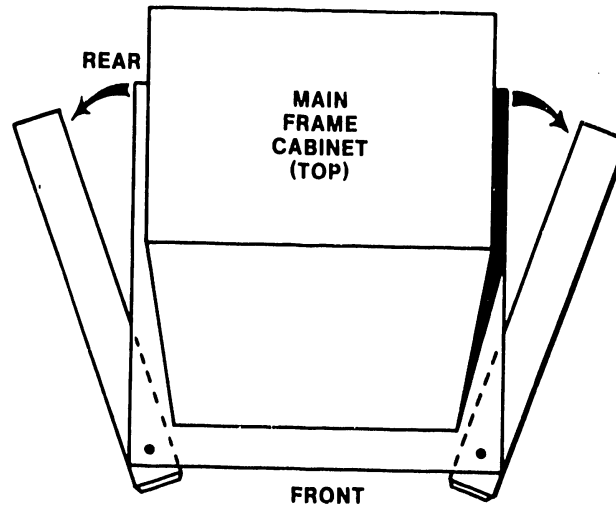

Figure 4-2. Swinging Cushion Pallet Feet
8. While firmly grasping the rear top of the cabinet, lift the cushion pallet up over the right cushion pallet foot bolt and partially swing the foot out away from the pallet. (See figure 4-2.)